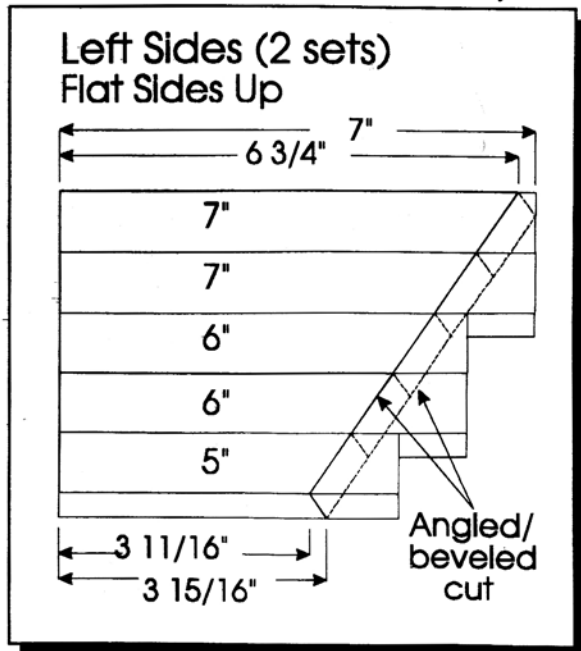

Figure 12- Dormer Left Side Roofs
b. For the left sides of the Dormer Roofs glue two 7", two 6", and one 5" piece together with the flat side up as shown in Figure 12.